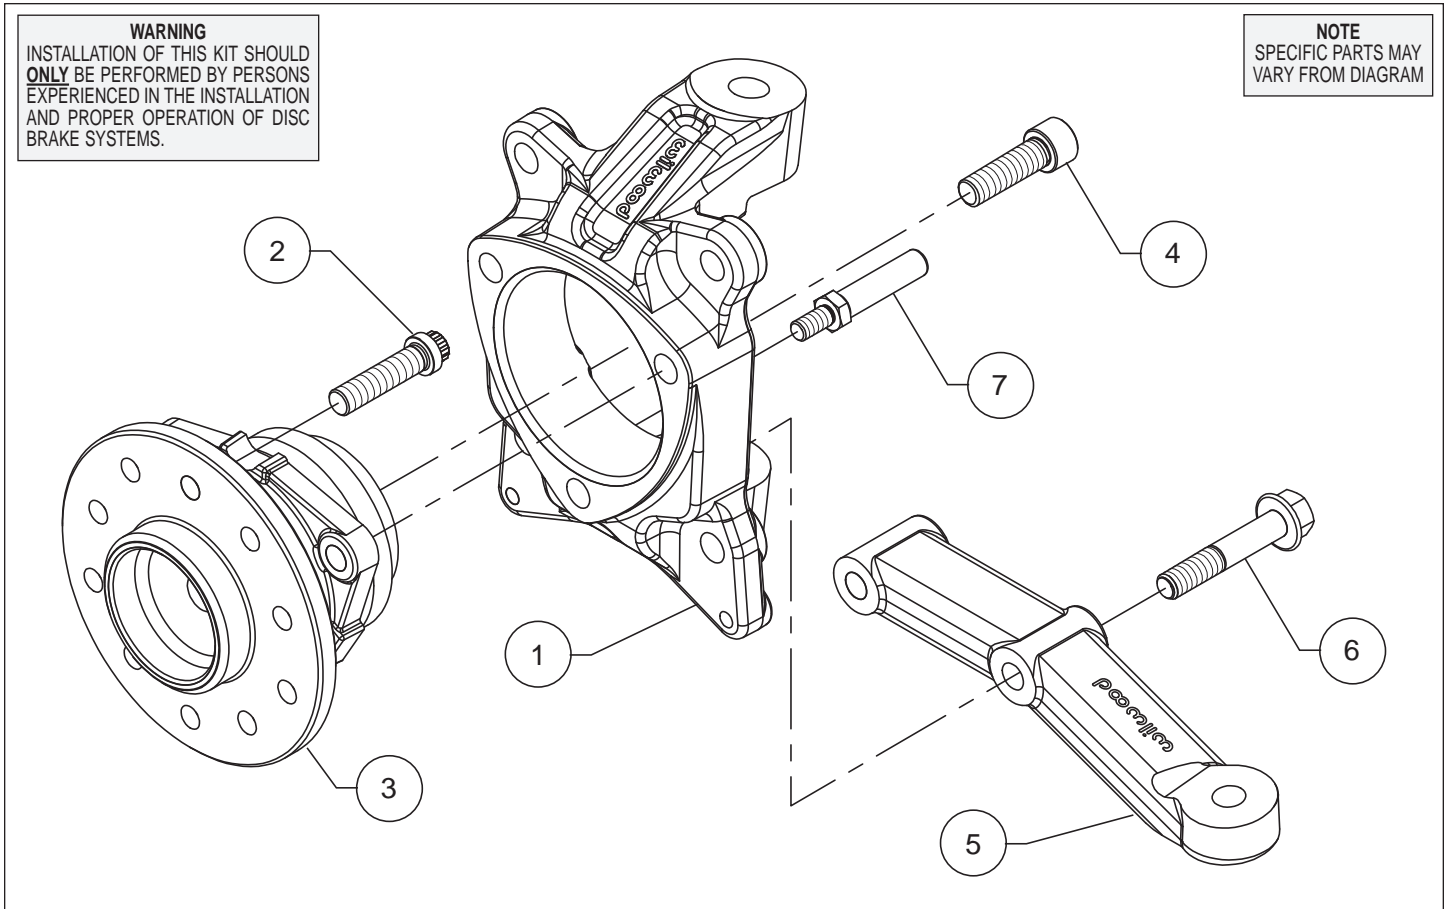

Figure 1. Typical Installation Configuration
### Assembly Instructions (numbers in parenthesis refer to the parts list and Figure 1 on the preceding pages):
- Apply red *Loctite*® 271 to the wheel stud (2) threads and install into the hub (3), Figure 1, and Photo 1. Torque to 77 ft-lb.
- Attach the steering arm (5) to the back side of the spindle (1) using bolts (6), Figure 1 and Photo 4. Torque bolts to 90 ft-lbs.
- Install the steering stop bolt (7), Figure 1 and Photo 6. Torque to 25 ft-lbs.
- Attach tie rod end to the new steering arm (5), Photo 7. Torque the tie rod end nut to OEM specifications. Install new cotter pin, not supplied.